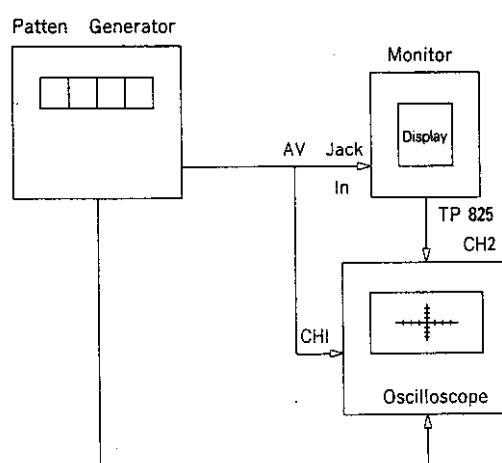

Fig. 11
6. Connect the equipment as shown in Fig. 11
2. Connect apparatus as Shown in Fig. 11